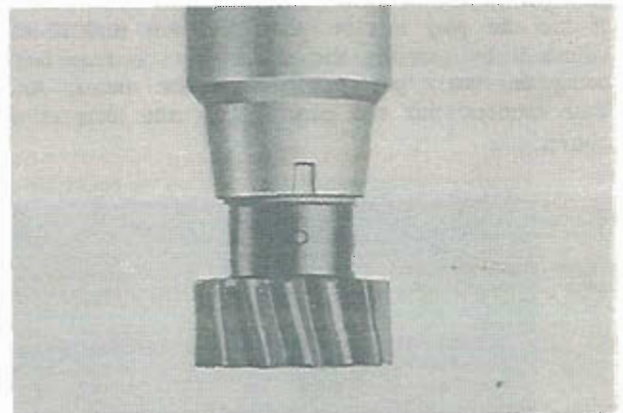

Fig. 1-93 Aligning tally mark
2. Align the tally mark on the distributor housing and driven gear as shown in Fig. 1-93.